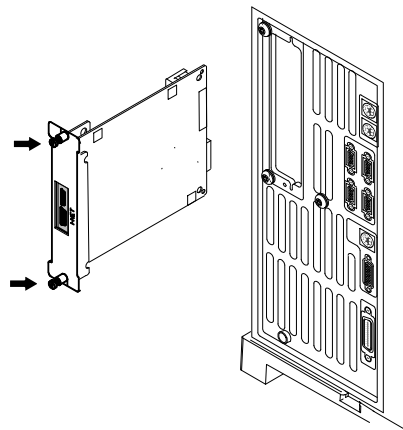

Figure 35 Removing the LAN card
- 8 If an MIO card (LAN card) is installed, loosen its two mounting screws and slide the card out of the GC (Figure 35).